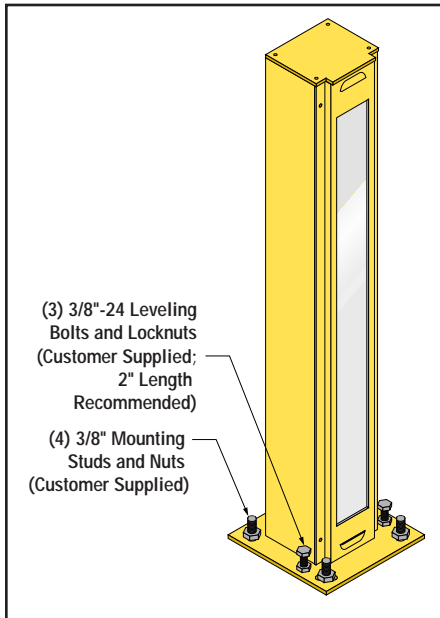

Figure 3. Base mounting and leveling
- Using 4 leveling nuts, threaded onto the four mounting studs, under the base plate. After leveling, secure the housing assembly using four 3/8" nuts on the four mounting studs (Figure 3). Add flat washers and lock washers, as required (not included).